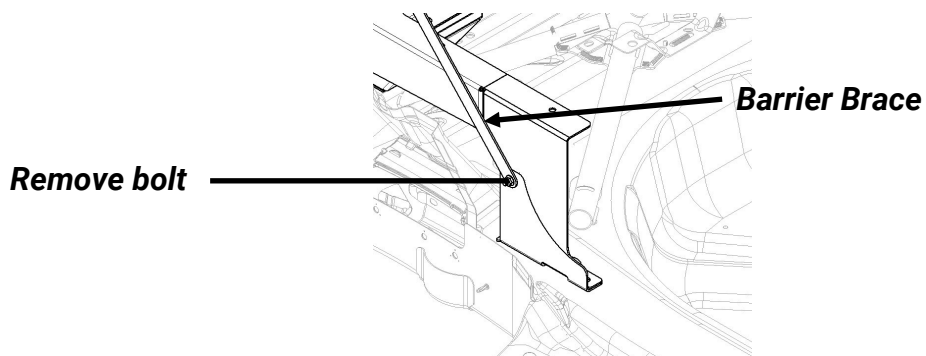

Figure 4
- B. Remove the bolt that secures the brace to it's mounting bracket (see Figure 4).